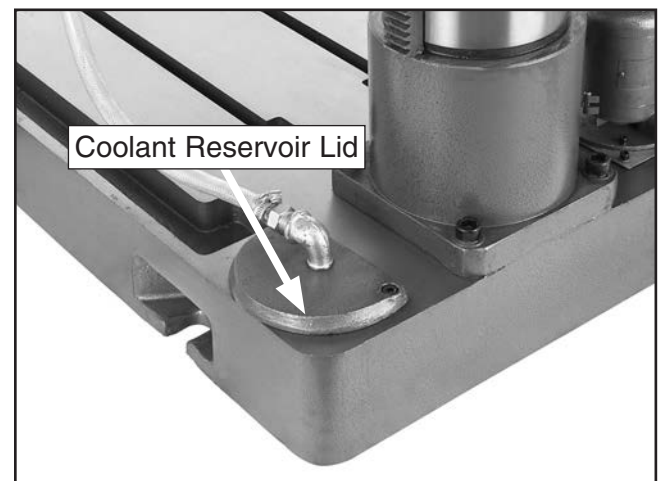

Figure 40. Coolant reservoir.
3. Put on gloves, safety glasses, and respirator. Loosen the cap screws and remove the reservoir lid (see **Figure 40**).